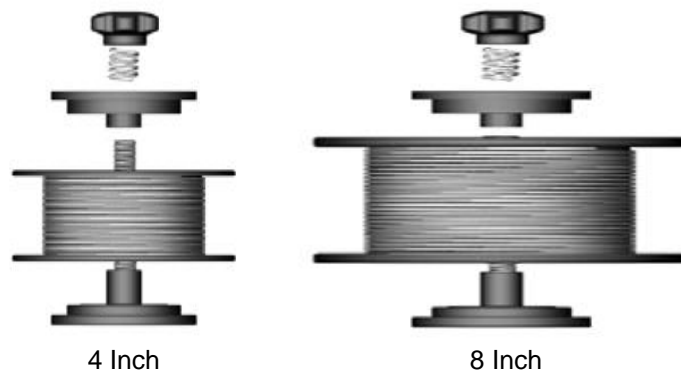

Figure 5
- v. The welder can use either 4 inch or 8 inch spools. See Figure 5 for additional reference. The wing nut controls the tension on the spool.